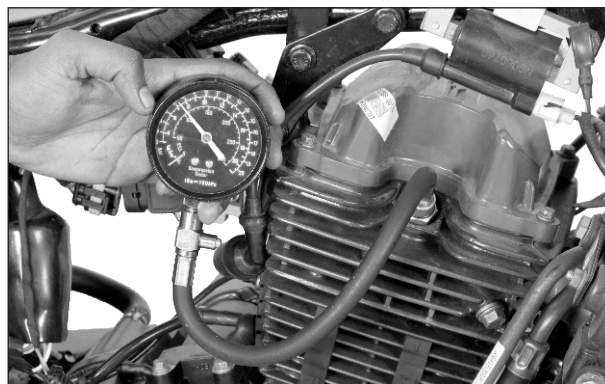

Fig. 3.1
- Mount the compression gauge adaptor to the plug hole, taking care to make the connection leak proof. (Fig. 3.1)